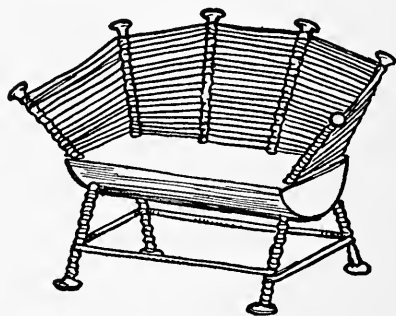

FIG. 404.—Sofa.
**The Sofa**, illustrated in Fig. 404, is made after the same manner. Split a straight cork lengthwise for the seat, placing it flat-side up, and stick pins around three edges of it upon which to wind the worsted.